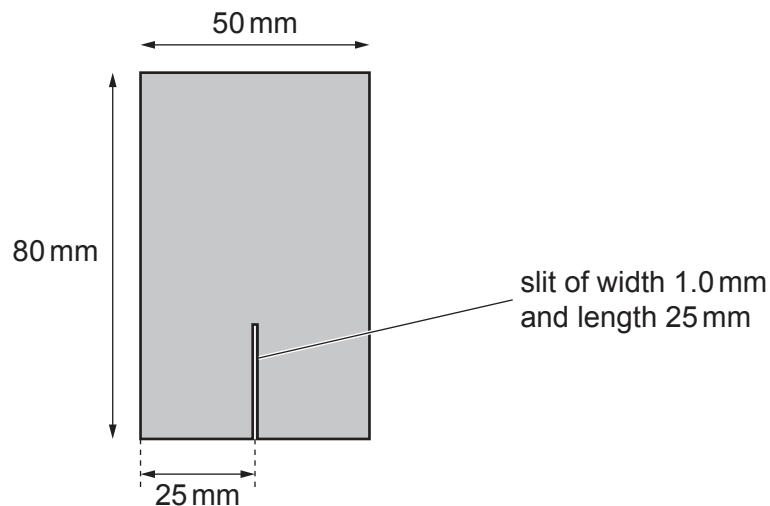

Fig. 1.1
1. If a ray box with slit is unavailable, the slit plate should be cut from a piece of rigid card into a rectangle of length 80 mm and width 50 mm. A slit of width 1.0 mm and length 25 mm should be cut into the card at 25 mm as shown in Fig. 1.1.